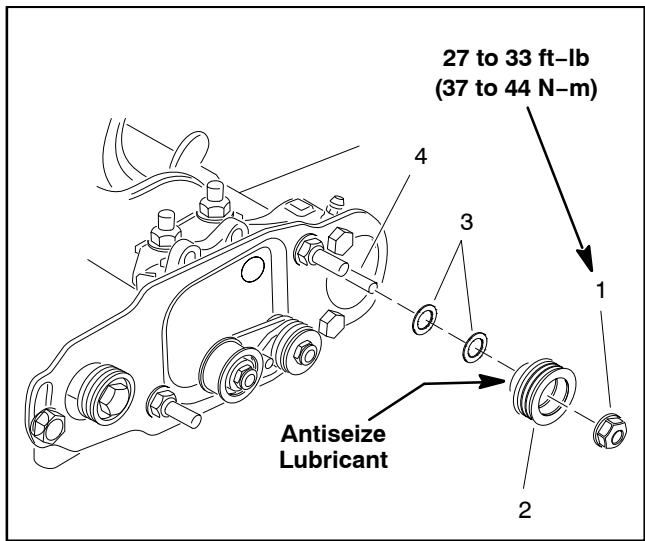

Figure 71
B. If necessary to align pulleys, remove driven pulley from brush shaft and add or remove flat washer(s) until drive and driven pulleys are correctly aligned (Fig. 71).